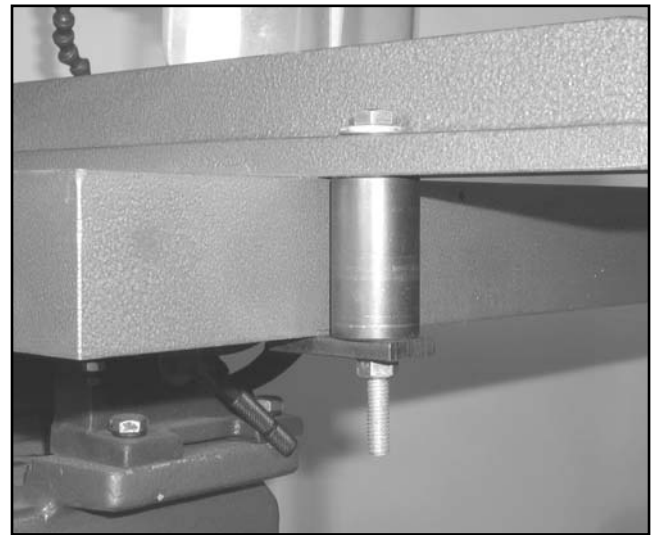

Figure 12. Fence lock in place.
2. Assemble and tighten the fence lock as shown in **Figure 12**.